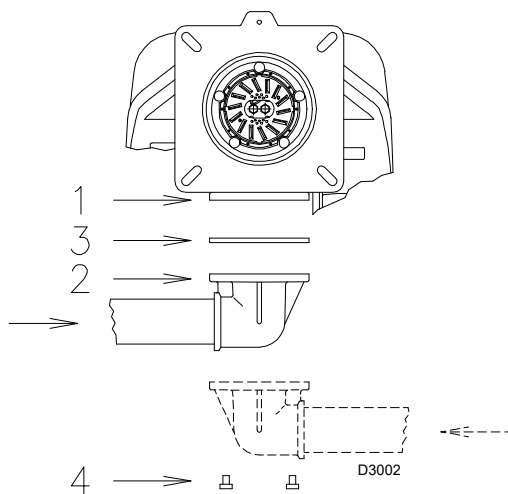

Fig. 28
- The gas train must be connected to the gas connection 1) (Fig. 28), using the flange 2), the gasket 3) and the screws 4) supplied with the burner.
- The train can enter the burner from the right or left side, depending on which is the most convenient, see Fig. 28.